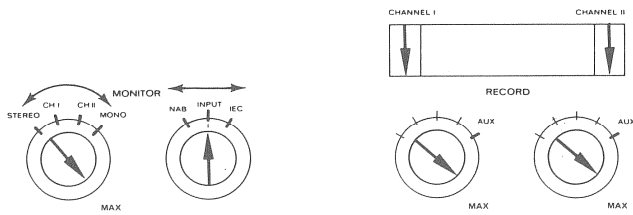

Fig. 6.7–85
– Set controls per fig. 6.7 –85